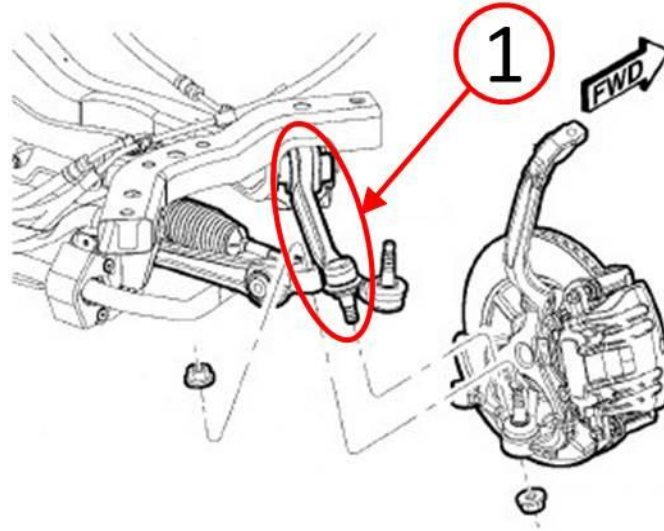

Fig. 1 Tension Strut Replacement
1. Visually inspect both right and left tension strut hydrobushings for cracks, hydrobushing fluid may be present (Fig. 1). Were crack(s) and/or hydrobushing fluid visible?